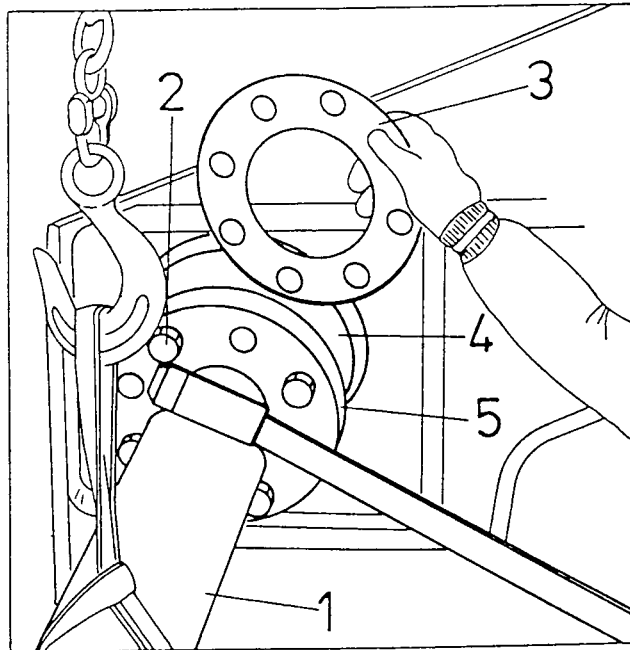

Fig. 5.41. Adjusting the Upper Strut and Tilt Cylinder
Using the removed shims (Fig. 5.41) determine the maximum amount of shims which will fill the gap between the cap (5) and socket (4). When the correct shim pack for the gap between the strut cap (5) and socket (4) is determined add one shim to provide clearance. Each shim is 0.75 mm.